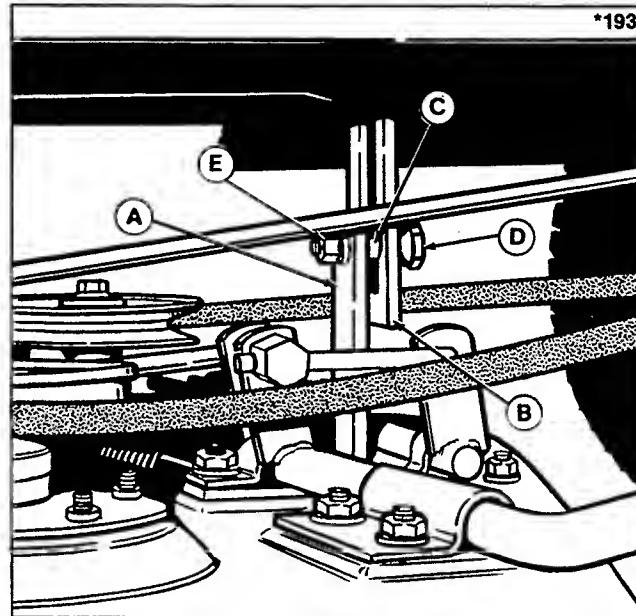

Figure 22. Mower Upstop Bracket - 36" Mower
- With mower as far toward rear of rider as possible (rollers just clear tires) push mower under rider until hitch touches steering mechanism. To slide mower farther, push down on both the hitch and the roller arm (C). Slide mower until the hitch arms are on either side of the steering mechanism.
- Slide the mower back toward the left and forward to align mower bracket (A, figure 22) in front of upstop bracket (B). (If drag link interferes with hitch, push hitch up for clearance.)
- Apply a little grease to the inside of the spacer (C, figure 22) and place the spacer on the bolt (D). Install the bolt thru the upstop bracket and mower bracket from the rear. Install the locknut (E) and tighten securely. The spacer (C) must ride inside the upstop bracket (B).
3. Remove the bolt, spacer, locknut from the mower bracket (A, figure 22).
2. Remove the bolt, spacer, lockwasher and nut from the mower bracket (A, figure 22).
7. Remove the belt. Push brake away to slip belt off pulleys. Slide the mower to one side to slip belt between mower bracket and upstop bracket (B, figure 22).